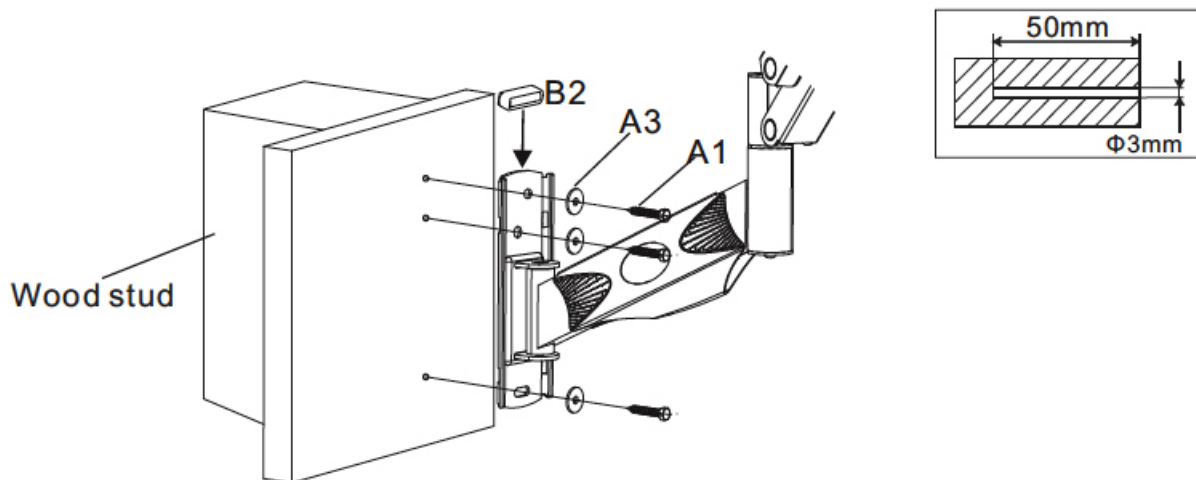

Figure 2
2. Hold the wall mount to the wall, line up the mounting holes to dead center of the wood stud, use the included **Bubble Level (B2)** to verify the wall mount is level, and mark the locations to be used for mounting the wall mount to the wall, see **Figure 2**.
5. Insert **Screw (A1)** with **Washer (A3)** into the drilled holes and tighten them with a Phillips screwdriver by turning clockwise until fully tight, see **Figure 2**.